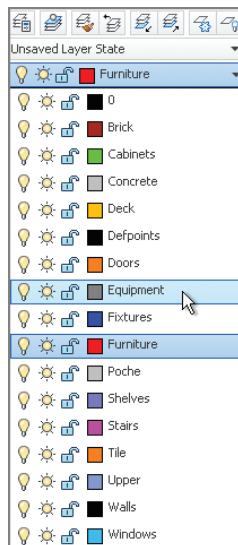

FIGURE 2.21
2. On the Home tab, take a look at the Layer drop-down menu in the Layers panel, and observe that Furniture is the current layer (because you see its name without having to open the drop-down). Open the Layer drop-down menu, and select Equipment as the current layer (see Figure 2.21).